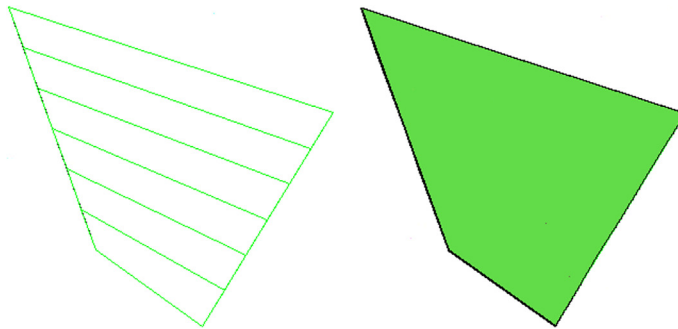

FIGURE 26.6
Step 3. Select the second line at roughly the same upper location (if you select a bottom location the surface self-intersects). The shaded results are shown in Figure 26.6.